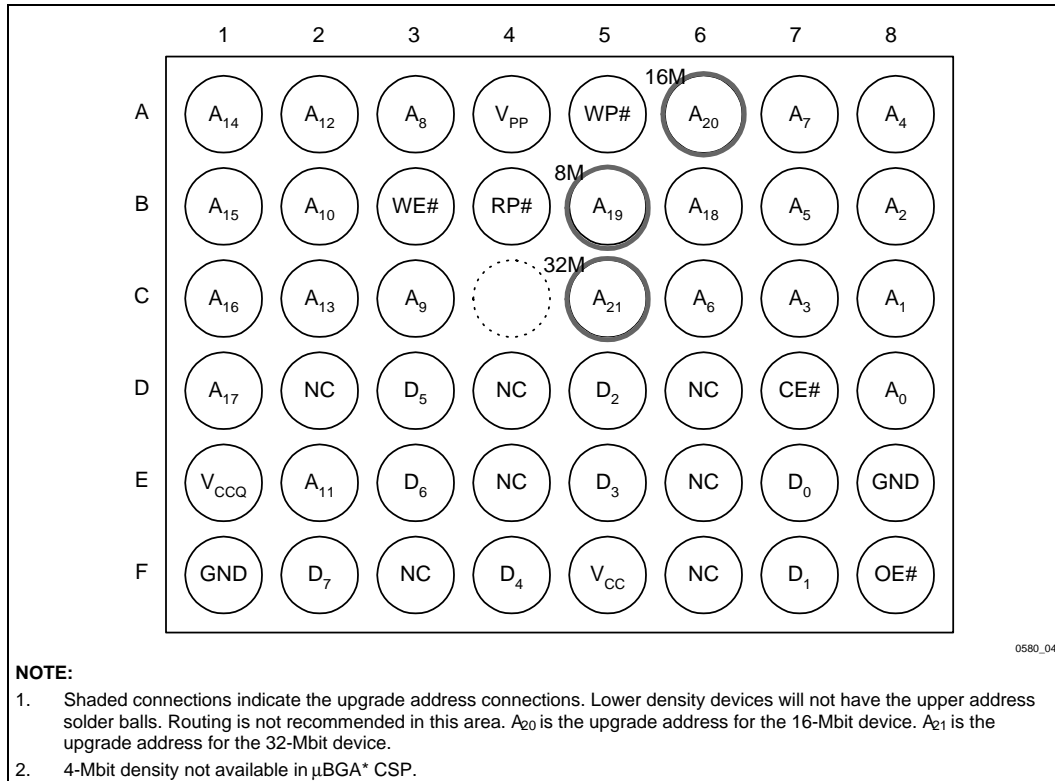
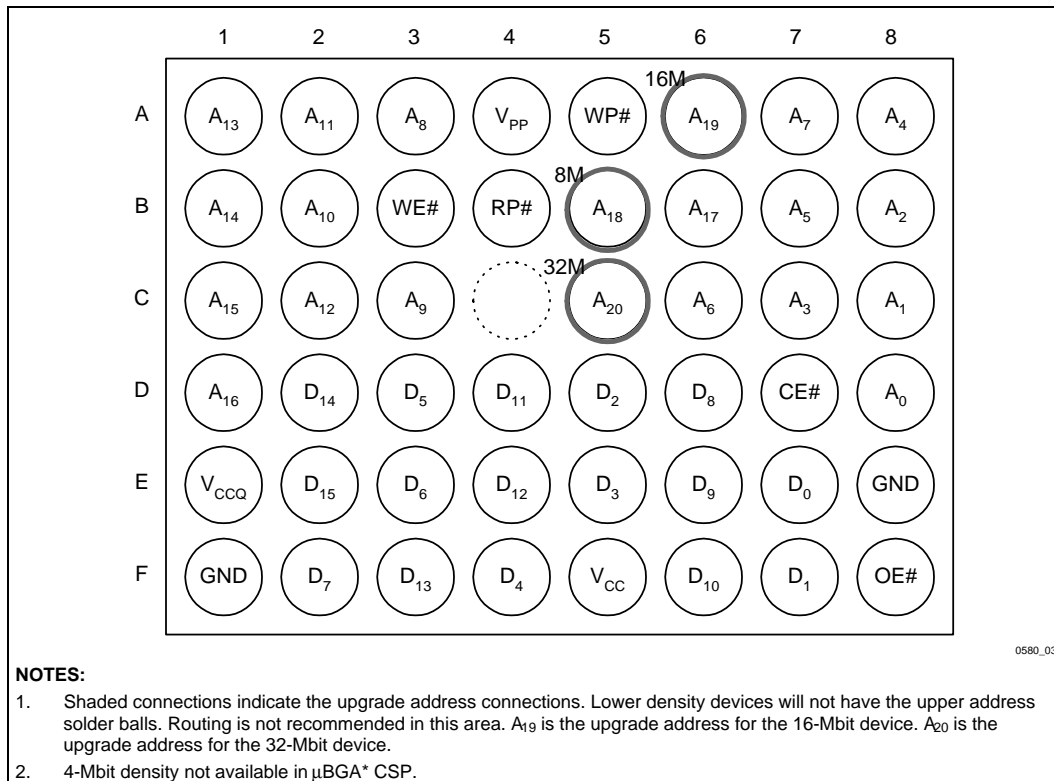

Figure 3. x8 48-Ball μBGA* Chip Size Package (Top View, Ball Down)
Figure 4. x16 48-Ball μBGA* Chip Size Package (Top View, Ball Down)
-005	μBGA package diagrams corrected (Figures 3 and 4) I_{PPD} test conditions corrected (Section 4.4) 32-Mbit ordering information corrected (Section 6) μBGA package top side mark information added (Section 6)
The Smart 3 Advanced Boot Block flash memory is available in 40-lead TSOP (x8, Figure 1), 48-lead TSOP (x16, Figure 2) and 48-ball μ BGA packages (x8 and x16, Figure 3 and Figure 4 respectively). In all figures, pin changes necessary for density upgrades have been circled.